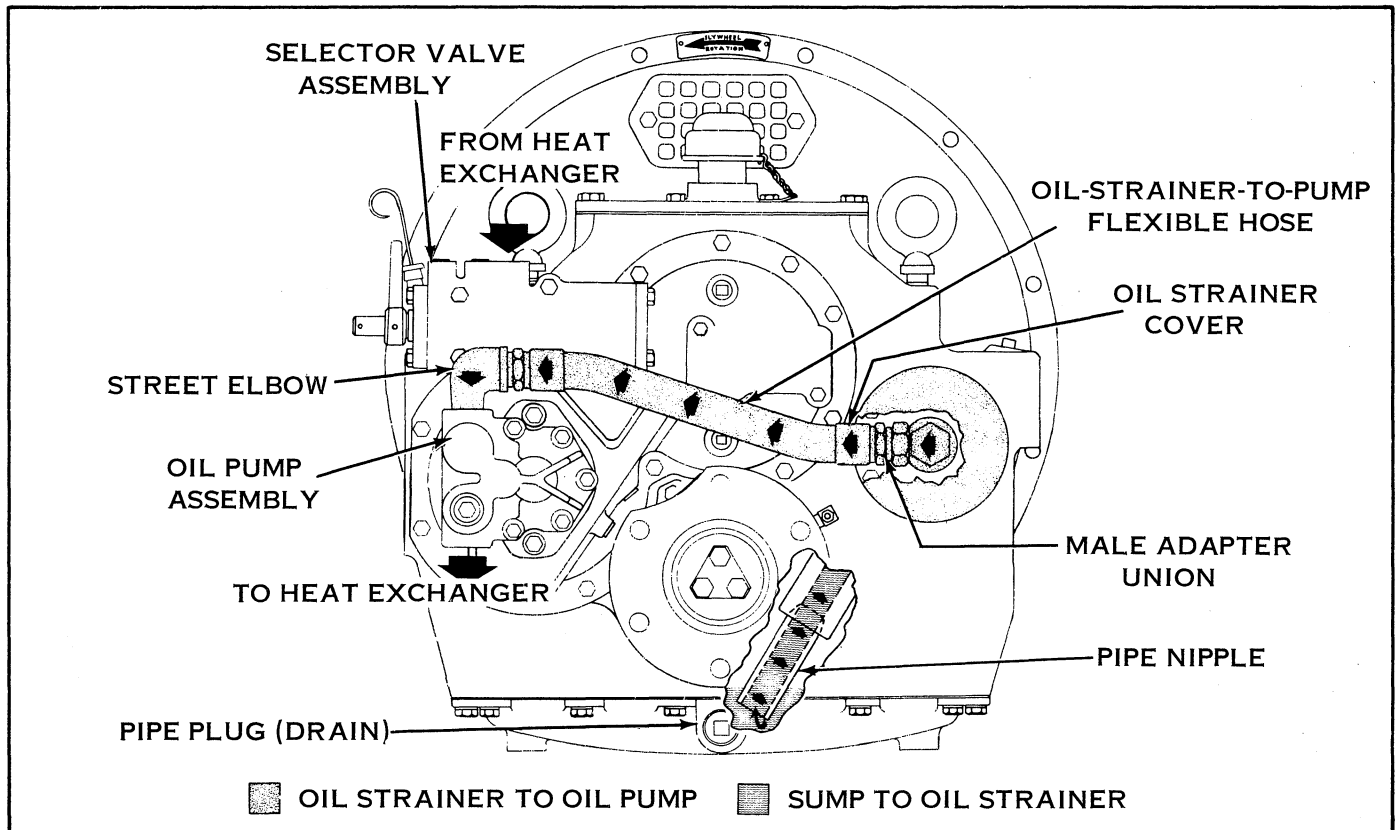

Figure 10. External Oil Circuit in Hydraulic System.
B. External Oil Circuit (Fig. 10). Oil is drawn from the sump through the oil strainer to the oil pump assembly. From the oil pump assembly the oil is conveyed to a heat exchanger where the oil is cooled. The cooled oil returns from the heat exchanger to the selector valve assembly through a flexible hose and tee fitting. The tee fitting is installed in the top of the selector valve body. The pressure gauge or connecting line to the gauge is connected to the tee fitting. This pressure reading will be of high pressure oil.